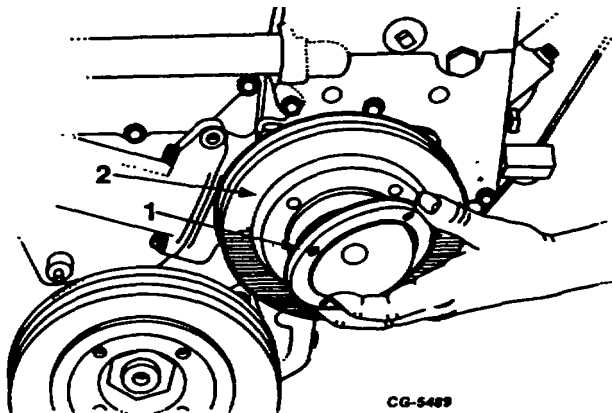

Figure 151. Water Pump Pulley Removal
- 8. Remove water pump pulleys by removing four mounting bolts, then slide the front pulley, the spacer and the rear pulley off the hub (Figure 151).